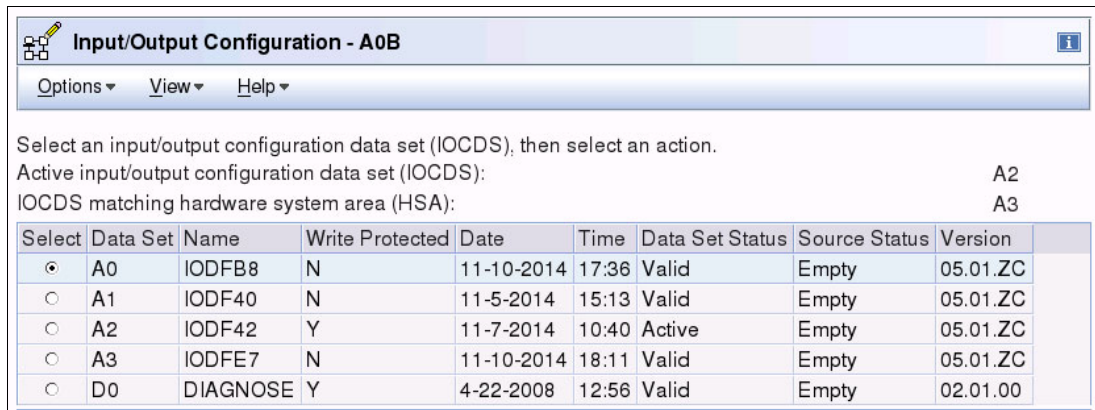

Figure 7-82 HMC - SAIOCP: IOCDs selection for import
10. Select the data set into which you want to import the IOCDs (in this example, A0) as shown in Figure 7-82.